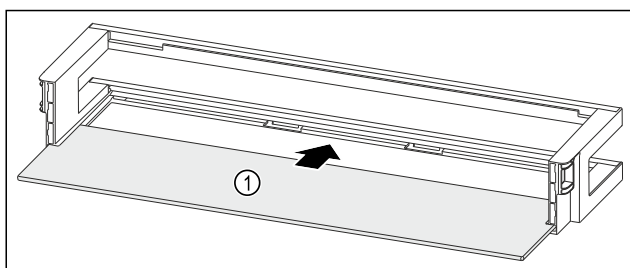

Fig. 262 Door rack with shelf
- Push the shelf Fig. 262 (1) into the side recesses.